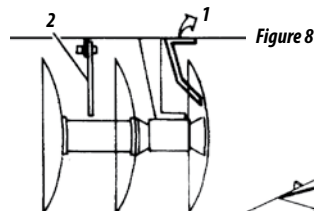

Figure 8
- 06 - Fix the wipers item 1, figure 8, on supports.
- 07 - Place the central wipers item 2 figure 8 in the front and rear frames.